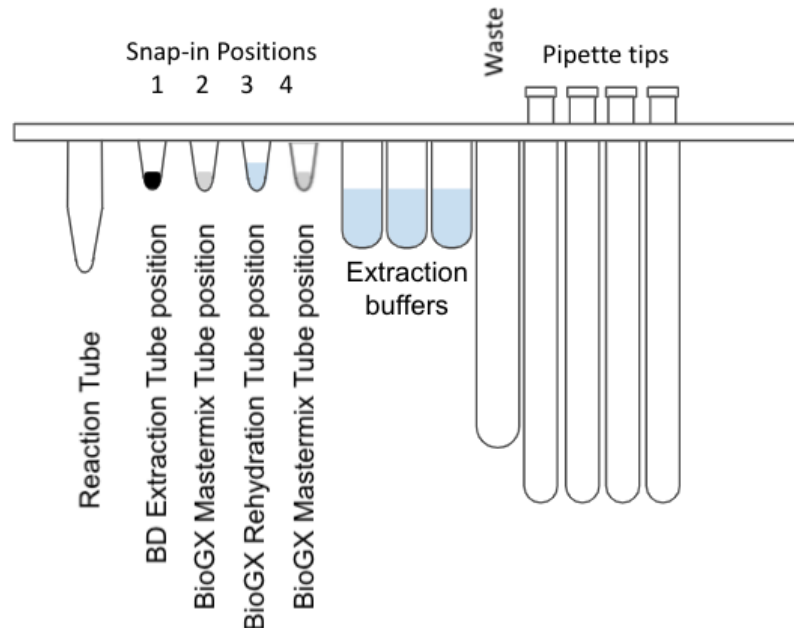

Figure 1. Diagram of BD MAX™ ExK™ 4-snap Unitized Reagent Strips
3. Snap one BD MAX™ ExK™ TNA Extraction tube into snap-in position 1 (Snap-1) of each extraction strip (**Figure 1**).